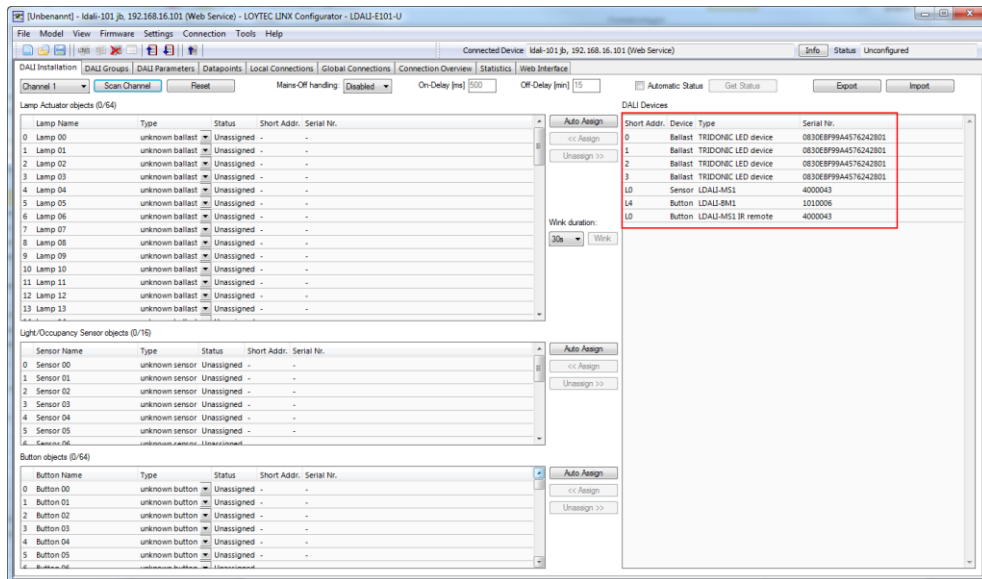

Figure 72: LINX Configurator software, detected DALI devices.
3. The L-DALI device scans the selected channel and displays all detected devices as shown in Figure 72. In case an error occurs see the LOYTEC Device User Manual [1] for a description of the error codes and possible reasons.